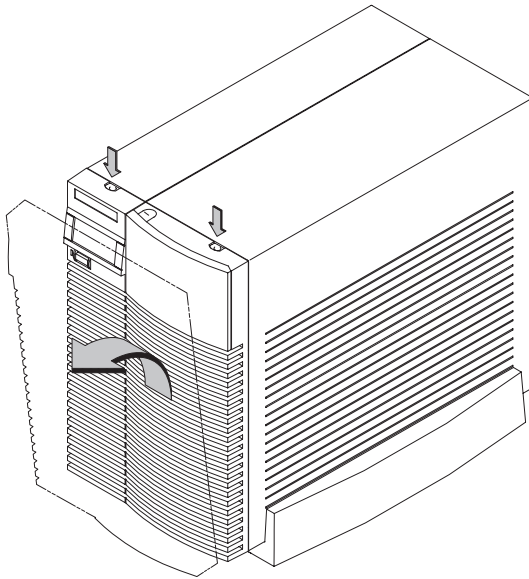

Figure 5–9. Opening the System Unit
2. Release the front cover by pushing in the two locking tabs at the front of the system unit as shown in Figure 5–9.